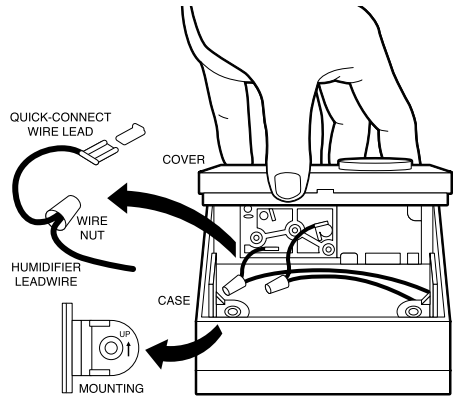

Figure 2
- 4) Make the wiring connections to the HA-1 assembly using lead wires and wire nuts supplied (Figure 2). Tuck wires into the bottom of the base, and then snap the cover assembly onto base (Figure 2).
- 4) Make the wiring connections to the HA-1 assembly using lead wires and wire nuts supplied (Figure 2) Tuck wires into the bottom of the base, and then snap the cover assembly onto base (Figure 2).